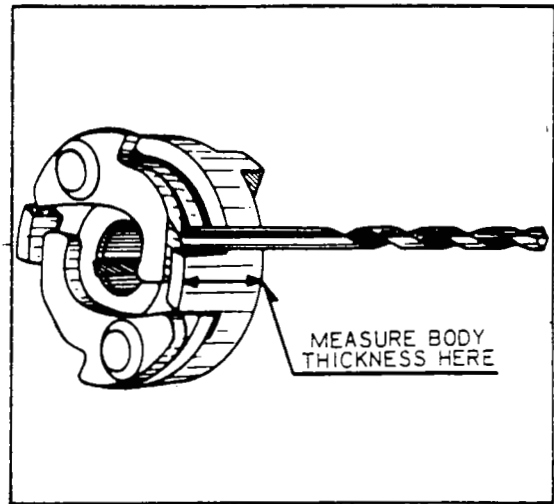

Figure 7-7. Impulse Coupling
9. Inspect impulse coupling (-21 magneto) flyweights for excessive looseness on the axles. Design couplings having .927 inch thick body should be checked with 1/8 inch drill. Couplings with .974 inch thick body are checked with a No. 18 drill. If drill fits between cam and flyweight the fit is too loose and coupling should be replaced. (Refer to Figure 7-7.)